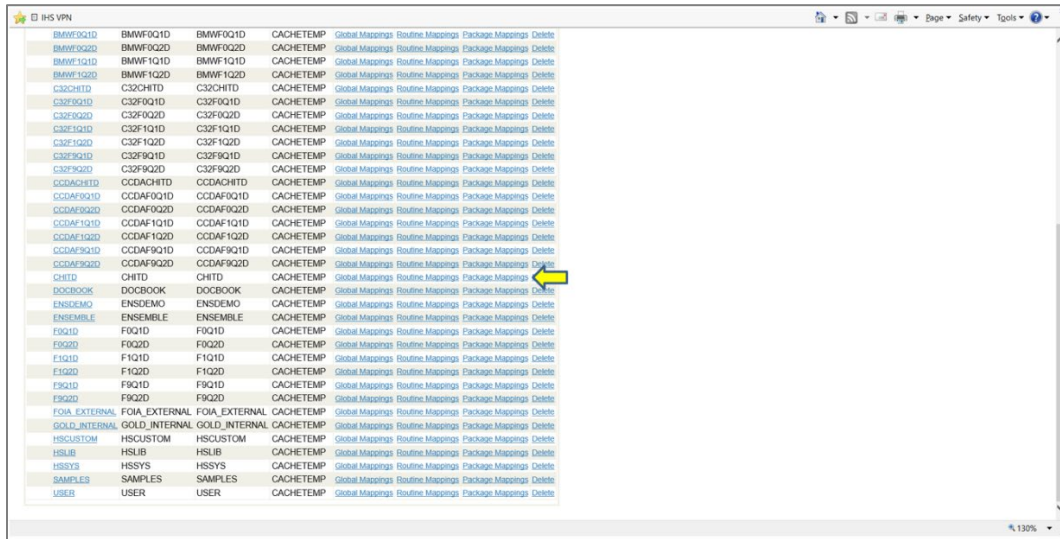

Figure 4-4: Select Package Mappings
1. On the **Namespaces** page, click **Package Mappings** in the RPMS namespace row to display the **Package Mappings** page, as shown in Figure 4-4.